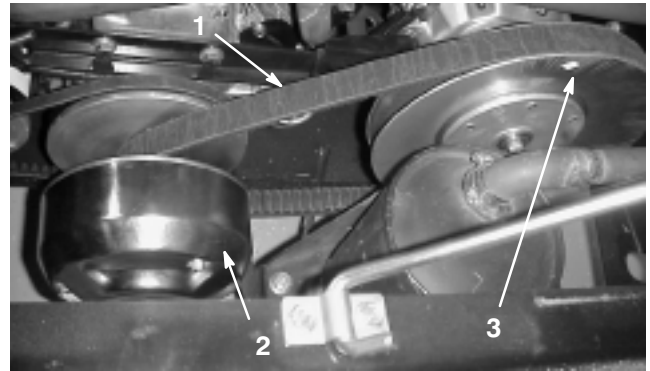

Figure 34
1. Rotate and route the belt over the secondary clutch (Fig. 34).
2. Remove the belt from the primary clutch (Fig. 34).